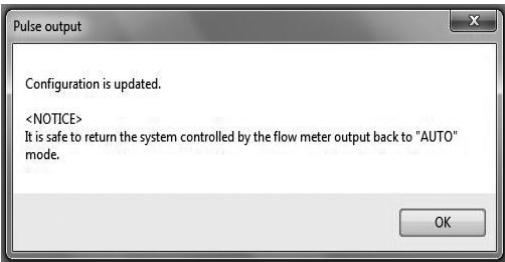

Fig. 3-38
- (4) Click "OK" button. If the setting is changed to the selected setting value, the message box (Fig. 3-38) will be displayed. Click "OK" button to complete the setting.